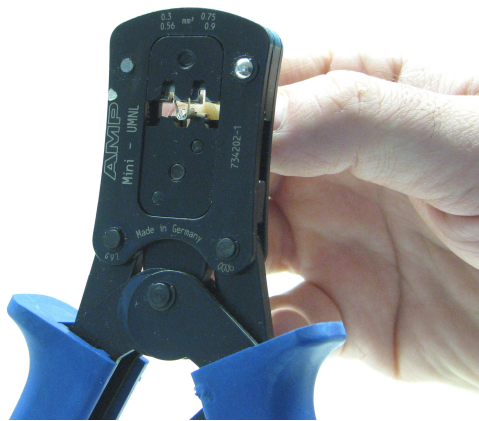

Figure 3
2. Now the contact is placed from the back side of the tool into the crimping area. Thereby the insulation flanks of the contact should be held against the contact/wire stop (see figure 3 and 4).